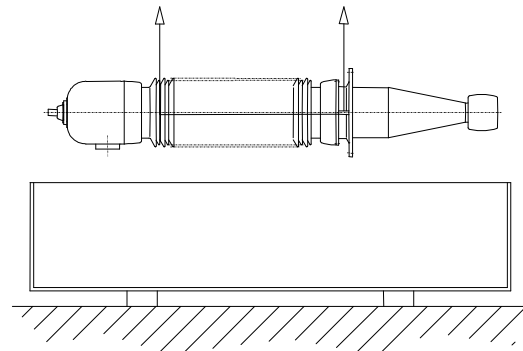

Fig. 11b
- Lift with the two tackles and hold the bushing in horizontal position (fig. 11b).